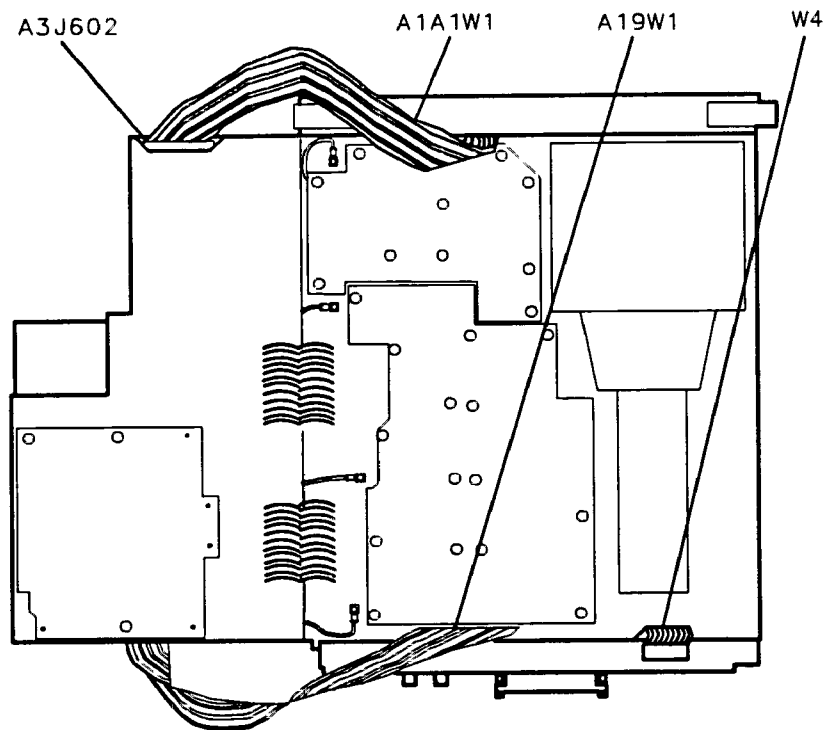

Figure 3-11. HP-IB and A1A1 W1 Cable Placement
9. Fold the A2 and A3 assemblies together as a unit into the analyzer. Be sure to fold HP-IB cable A19W1 between the A3 and A4 assemblies, using the two sets of hook and loop fasteners. See Figure 3-11.
10. Fold ribbon cable A1A1W1 between A3 and A4 assemblies. Take care to dress the protective tubing as close to A3J602 connector as possible, so that the tubing does not fold with the cable. See Figure 3-11.